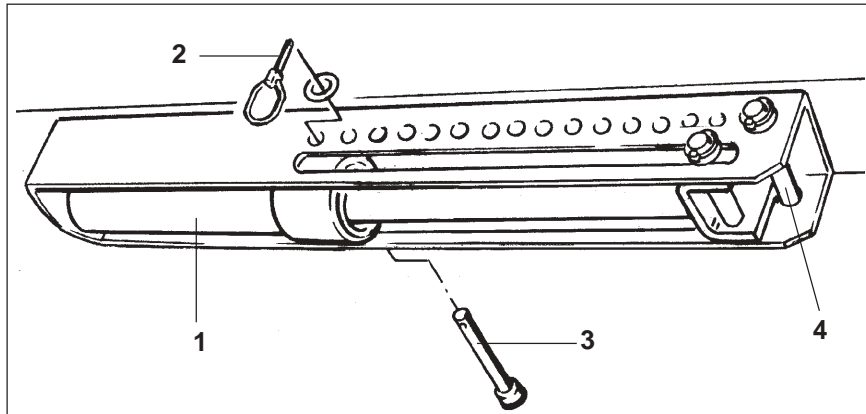

Fig. 22.5
Two pins (Fig. 22.5/3 and Fig. 22.5/4) function as limiter for the hydraulic ram (Fig. 22.5/1) in the setting segment. When the hydraulic ram is without pressure the top of it rests on the pin (Fig. 22.5/3) and when the hydraulic ram is pressurised it rests on the pin (Fig. 22.5/4)
- Pressurise hydraulic ram (Fig. 22.5/1) .
- Insert pin (Fig. 22.5/3) into one of the holes of the quadrant plate and secure by a clip pin (Fig. 22.5/2) .
The further the pin (Fig. 22.5/3) is inserted into a hole to the right, the higher the coulter pressure will become.